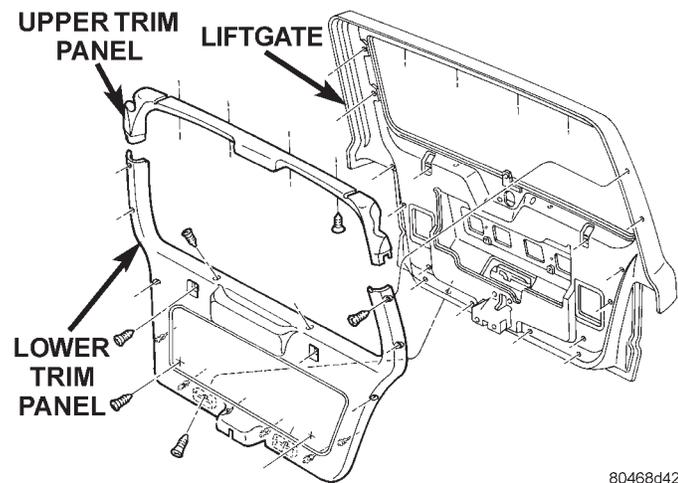

Fig. 13 Liftgate Trim Panel Remove/Install
(1) Disconnect and isolate the battery negative cable.
(2) Open the liftgate.
(3) Remove the screws that secure the liftgate lower trim panel to the liftgate inner panel (Fig. 13).